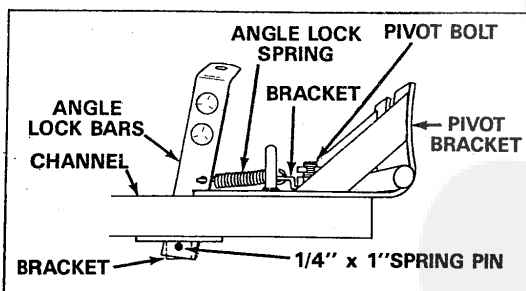

FIGURE 3
4. Using a hammer drive 1/4" x 1" spring pin through slot in bracket and hole in end of lock bars until flush with bracket. See figure 3. Tighten 3/8" hex nuts left loose in step 1.